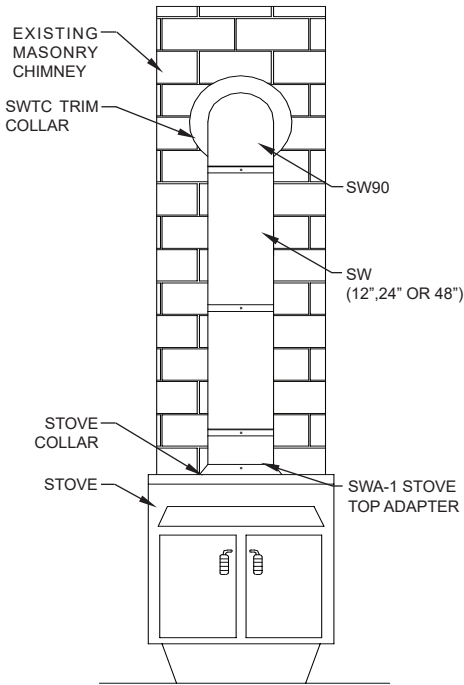

FIG. 1
1. Determine the appliance outlet location relative to the chimney system ceiling support or existing masonry chimney. If the appliance is being terminated into an existing masonry chimney, the trim collar (SWTC) is used to close the gap between the brick and SW connector (See **FIG. 1**).